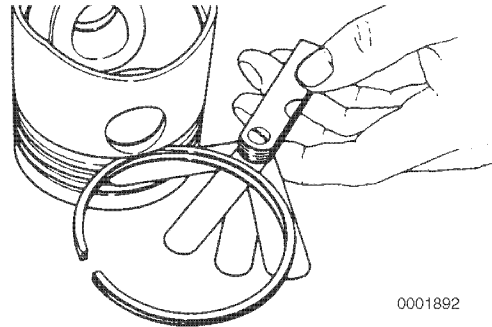

Figure 6-53
9. Place each compression piston ring in the groove as shown (**Figure 6-53**). Use a feeler gauge to measure the clearance between the piston ring and the piston ring land. Record the measurements. See *Piston Ring on page 6-11* for specifications. Replace the piston if not within specification.